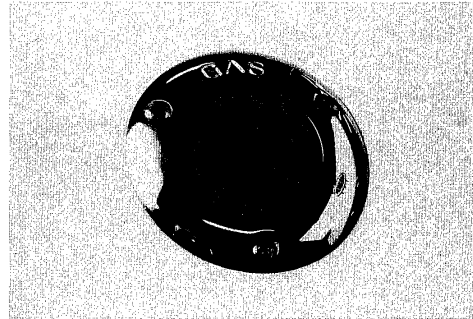

Figure 11
5. A special key to unlock the fuel cap is given to you. Insert the key in the slot in the fuel cap. The fuel cap is in the covering board on the port side of the boat. See figure 11.